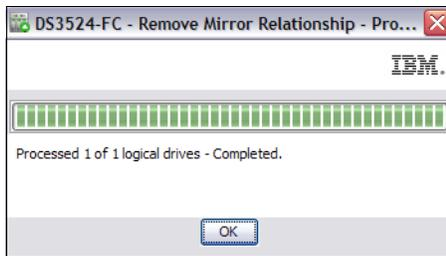

Figure 5-54 Mirror relationship removal progress
3. Click **Yes**. The Remove Mirror Relationship - Progress window (Figure 5-54) opens. Click **OK**. All data on the logical drives remains intact and available. Logical drives that were the secondary logical drive in the mirrored pair are now accessible (read/write) by hosts that are mapped to them.